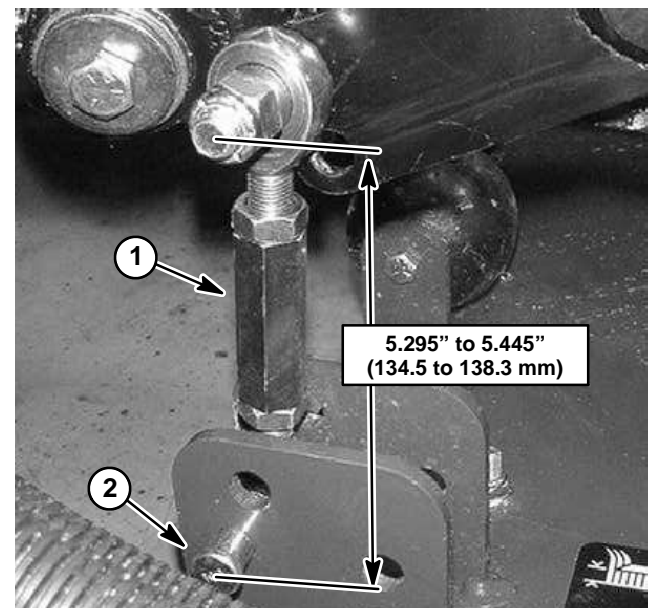

Figure 9
2. Remove hair pin and clevis pin that connects damper link to cutting deck (Fig. 9).
6. Mount plate to rear arm housing with two (2) cap screws and lock nuts. Grasp end of spring shaft. Push inward and pull outward on shaft to determine endplay in assembly.
8. Remove two (2) cap screws and nuts securing plate to rear arm housing. Remove spring shaft assembly from housing.
10. Thoroughly pack spring with grease. Install spring shaft assembly into housing and secure plate with four (4) cap screws and lock nuts.
11. Thread rod end (item 8) with jam nut (item 9) into end of spring shaft. Do not tighten jam nut at this time.
12. If rod ends (item 31) were removed from damper (item 30), apply Loctite #271 (or equivalent) to damper shaft threads before installing rod ends. Secure damper to bellcrank and rear arm with cap screws and lock nuts. Torque fasteners from **270 to 330 in-lb (31 to 37 N-m)**.
13. If damper link was disassembled, adjust the length of the link from 5.295" to 5.445" (134.5 to 138.3 mm) (Fig. 9).
14. If damper springs (item 37) were removed, tighten lock nuts so that bushings (item 36) are free to rotate.
3. Connect damper link to cutting deck with clevis pin and hair pin (Fig. 9).